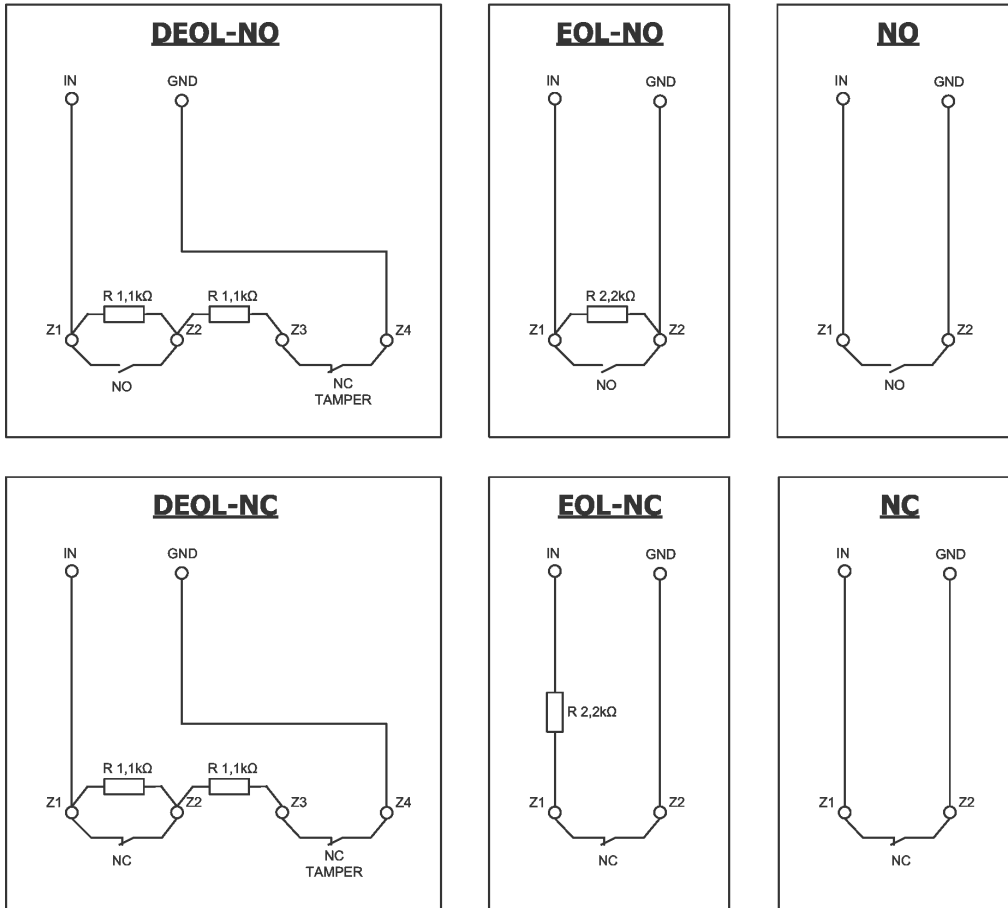

Figure 2. Configuration of input lines
Inputs IN1 – IN9 might work as normally closed (NC) or normally open (NO). Additionally inputs might be configured as end of line (EOL-NO or EOL-NC) with resistors 2.2kΩ or as double end of line (DEOL-NO or DEOL-NC) with resistor 1.1kΩ. Examples of connecting sensors to the inputs in various configurations are shown in figure 2.